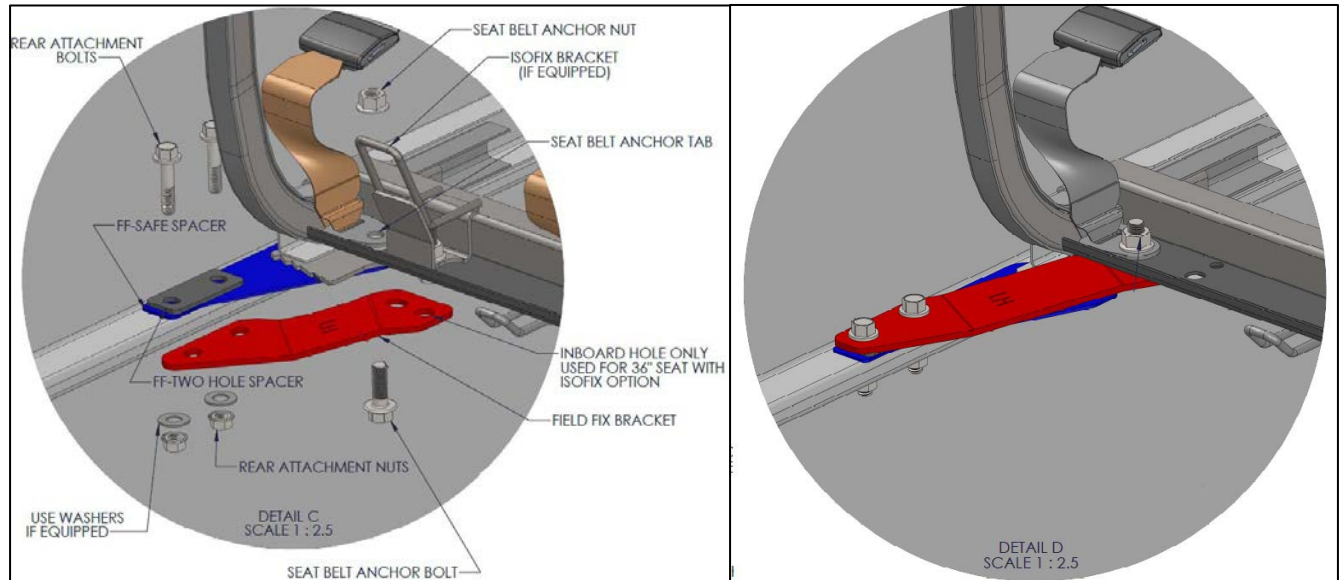

Figure 13: Installation Of Safe Spacer – 45 Inch Seats (Driver's Side Shown)
4. Install the new bracket (TBB 20624 for Driver's Side or TBB 220625 for Curb side) on top of the existing wall bracket and the safe spacer. See **Figure 13**.